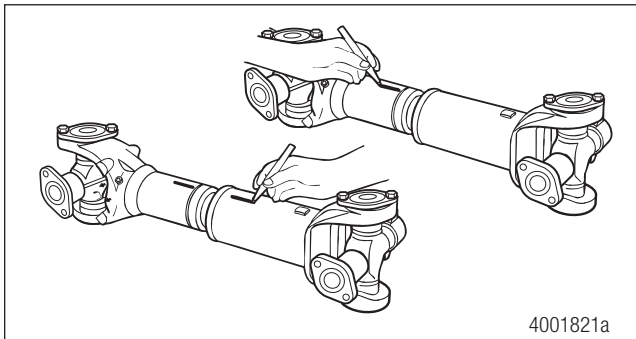

Figure 6.4
3. Mark the slip yoke and slip shaft sections to ensure that you reassemble them into their original positions. Figure 6.4.